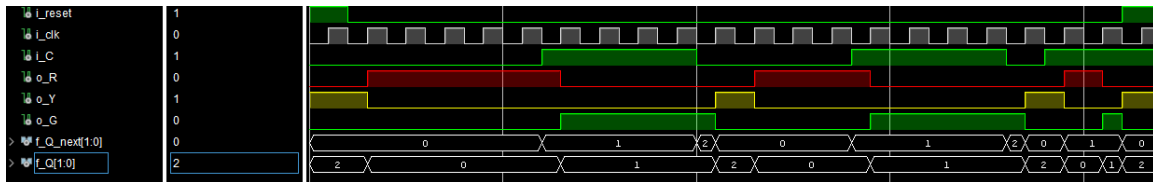

Figure 7. Stoplight FSM test bench waveform
See Figure 7 below to see what your simulation should look like. Note the additional signals we have not seen in past simulations. Not only can we check that the outputs are happening as expected, but we can verify that the state (Q) and next state (Q\_next) are behaving as they should. Note that these signals do not show up in your waveform by default. The waveform will only show the signals in your test bench itself. However, you can pull any signal from any component and have it added to your test bench. To do this click "Window" and then "Scope." You will see your stoplight\_fsm\_tb and the subcomponent stoplight fsm. If you click on stoplight fsm, you will see all of the signals present inside the component. Highlight Q and Q\_next, right click, and select "Add to Wave Window." You will need to run the sim again. You may also remove the constant since it's presence doesn't tell you anything useful. The ability to add signals in sub components will be a useful tool when you are debugging your FSM designs. It can help you figure out where your error is. For this design, if the state is correct but the output is not then the issues is in your output equations. If f\_Q\_next is correct but f\_Q is not then maybe you are resetting on accident or your process is incorrect.